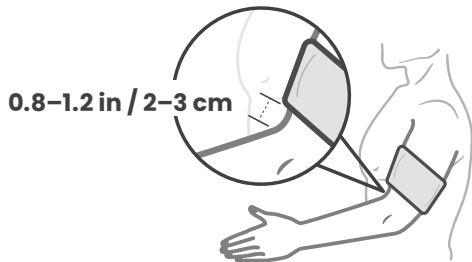

Figure 3.1
3. Place the cuff on your upper left arm with the air hose on the inside of your arm. The band should not be wrapped too tightly (leave space to insert about 2 fingers) and the lower edge of the cuff should be about 0.8–1.2 in / 2–3 cm away from your elbow. [Figure 3.1]